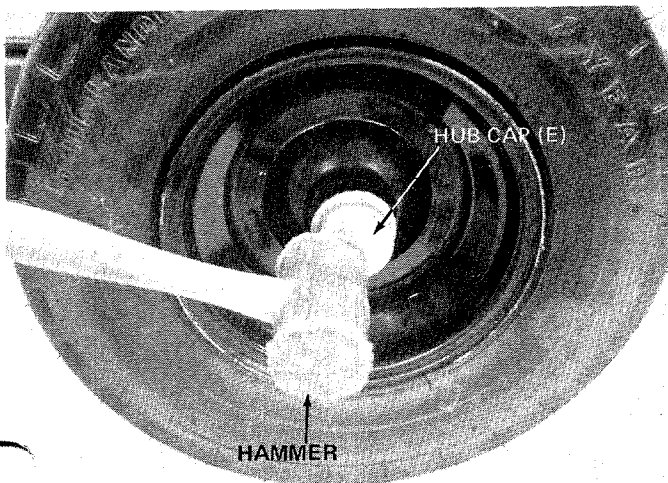

FIGURE 4
4. Place hub cap (E) in position on wheel and tap on with a plastic hammer. See figure 4.